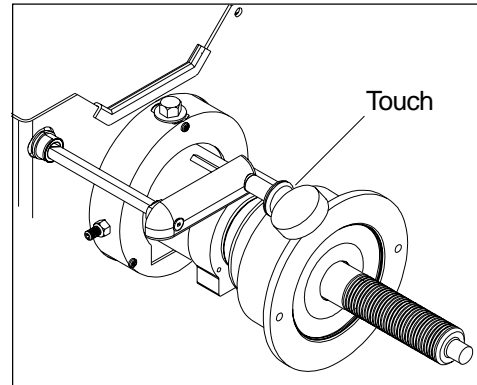

Figure 20
4. Attach the round calibration weight into the threaded hole from the **outer** edge. Extend the SAPE arm until the tip touches the calibration weight. See *Figure 20*. Press the *Enter* key. Display will read "**DIS Gd**" Press *Enter*.